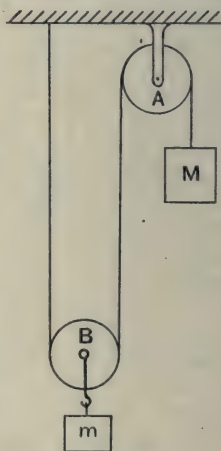

Fig. 122.
**Example (7).** *In the arrangement shewn in fig. 122, each of the pulleys has a mass  $w$ , a radius  $r$ , and a radius of gyration  $k$ . If when left to itself the mass  $M$  descends and raises mass  $m$ , find the velocity of  $M$  when it has fallen a distance  $h$  from rest.*